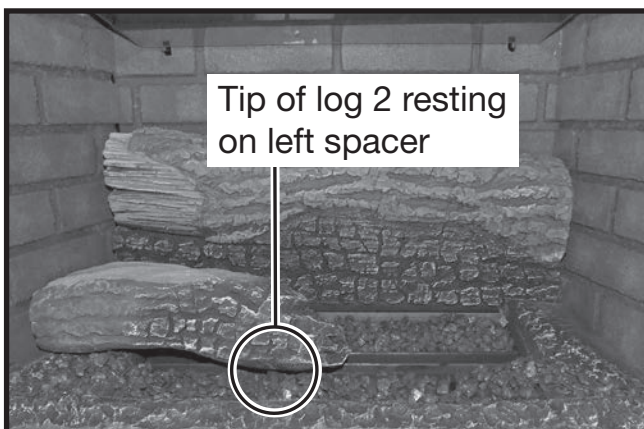

Figure 70: Log 2 positioned on left spacer.
7. Place log number two (Figure 55) so that the post protruding from the bottom of the log can be inserted into the hole of the left base piece. Then position the front of the log so that it rests on top of the left spacer (Figure 70). The log and the vermiculite should ideally hide the spacer.